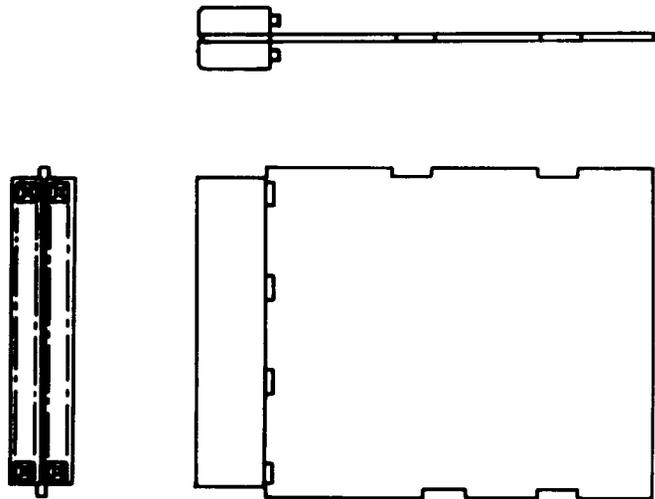

Fig. 15—979-Type Connector
2.11 979A, B, C, D, E, and F: The 979-type connectors (Fig. 15) consist of two 963J-10 connectors which are ultrasonically welded to a printed wiring board. The connectors mate with 0.025 inch square terminals on 0.125 inch centers.